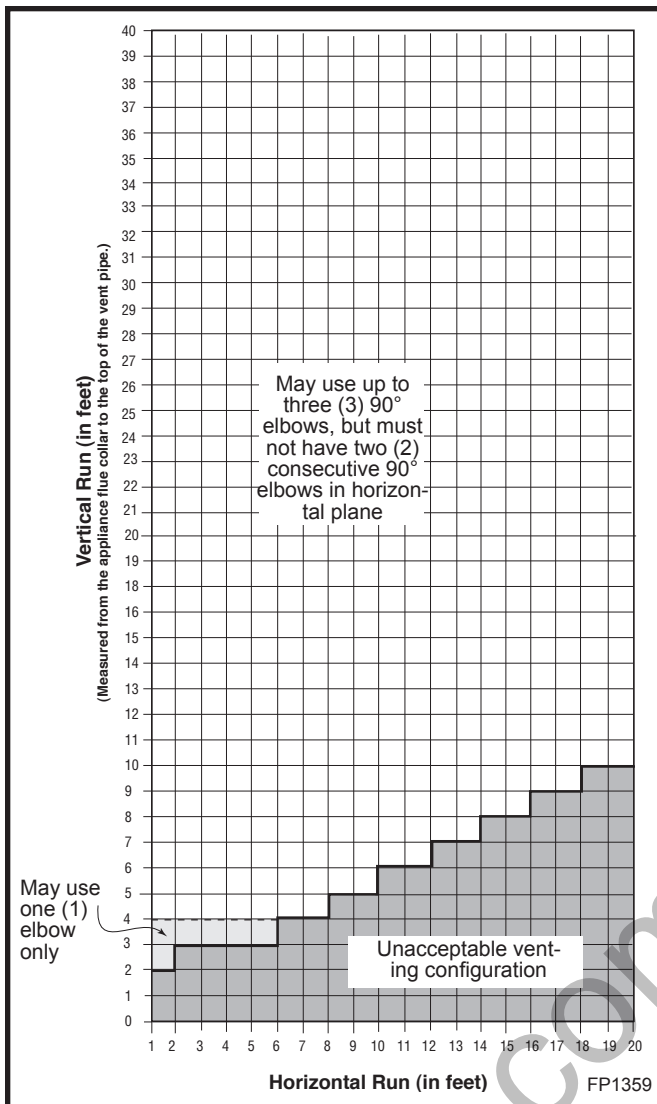

Fig. 16 Horizontal vent termination window.
The vent must rise vertically a minimum of 24" (610mm) off the top of the unit, before the first elbow. The horizontal run may extend up to 20' (6 m) and include a vertical rise of up to 40' (12 m). (Fig. 16) Horizontal termination must also meet the criteria shown in Figures 13 & 14.
- Approved vent systems must terminate above and including the heavy line in Figure 16.
- With a rise between 2' - 4', one (1) 90° or two (2) 45° elbows may be used.